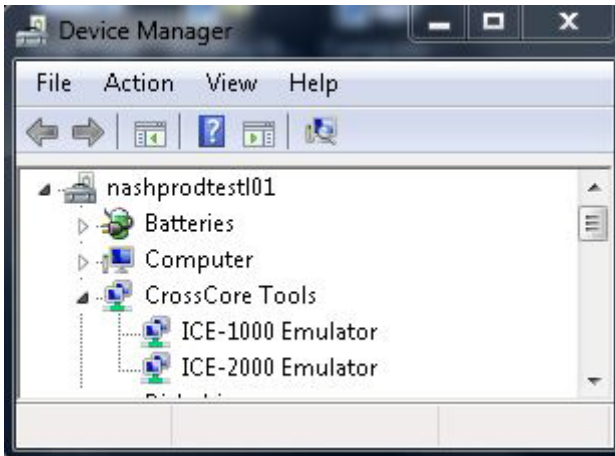

Figure 1-2. Verifying Driver Installation
1. Open the Windows **Device Manager** and verify that the ICE-1000 or ICE-2000 emulator appears under **CrossCore Tools**, as shown in Figure 1-2.